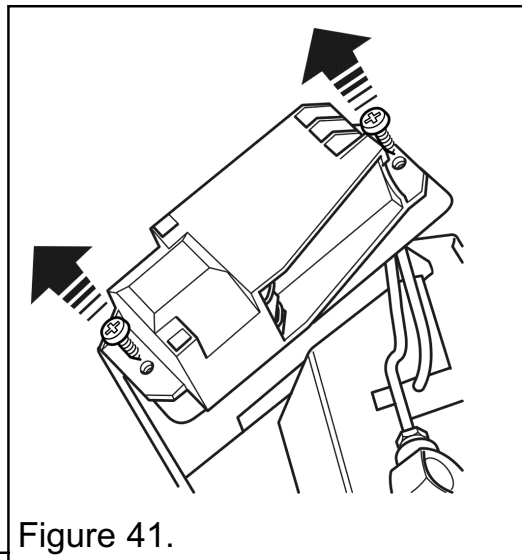

Figure 41.
4. Unscrew the two fixing screws that attach the generator unit to the support bracket. The igniter generator can now be removed (See figure 41).